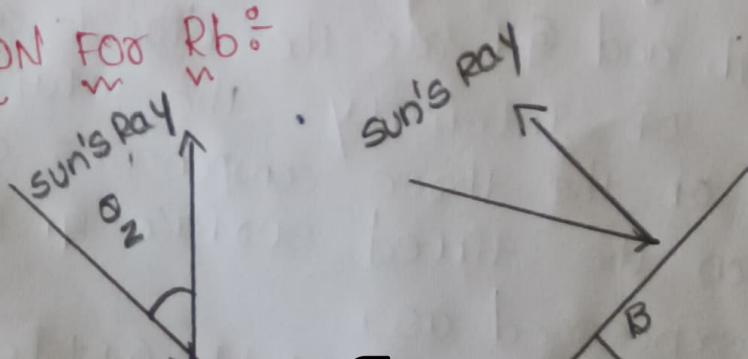

Fig 8.1-
as shown in fig 8.1.
- \* The Ray as shown in Fig 8.1 (a) makes an angle
shown in fig 8.1 (b). The tilted surface makes
an angle  $\phi$  in fig 8.1, it follows.